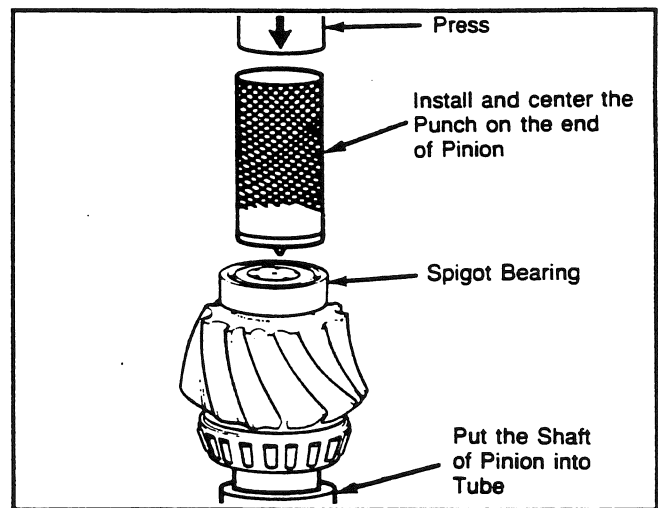

Fig. 33
- Place the drive pinion and the tube into a press. The spigot bearing should be toward the top. Place the punch over the end of the drive pinion and spigot bearing. Apply the staking pressure previously calculated (see Fig. 33).